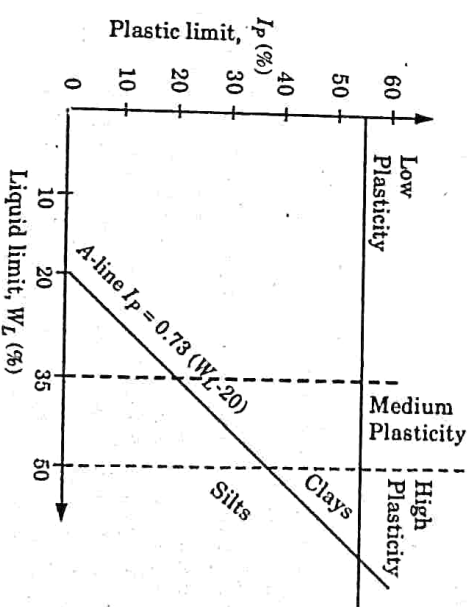

Fig. 1.30.1.
The plasticity index and the liquid limit can be used to classify fine-grained soil via plasticity chart shown in Fig. 1.30.1.
- The line shown in Fig. 1.30.1 separates silts from clays.
- In the plasticity chart, the liquid limit (LL) of a given soil determines its plasticity. Soils are classified on the bases of LL as follows:
- To determine the state of a natural soil with an in-situ moisture content w , we can use the liquidity index (LI), defined as